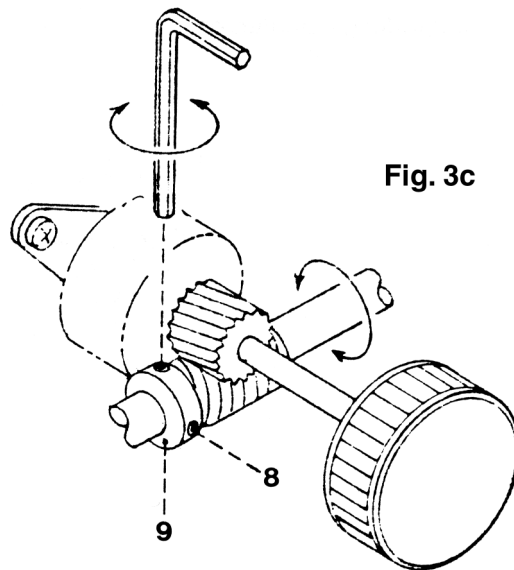

Fig. 3c
- Loosen screws 8 with a 2 mm Allen key (fig. 3c).
- Tighten screws 8 (fig. 3c).